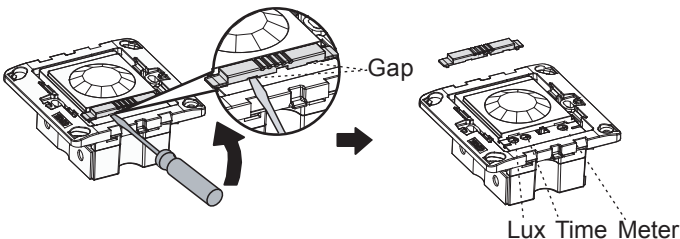

FIG.14
4.1.2 Take off the knob cover slightly (See FIG.14).